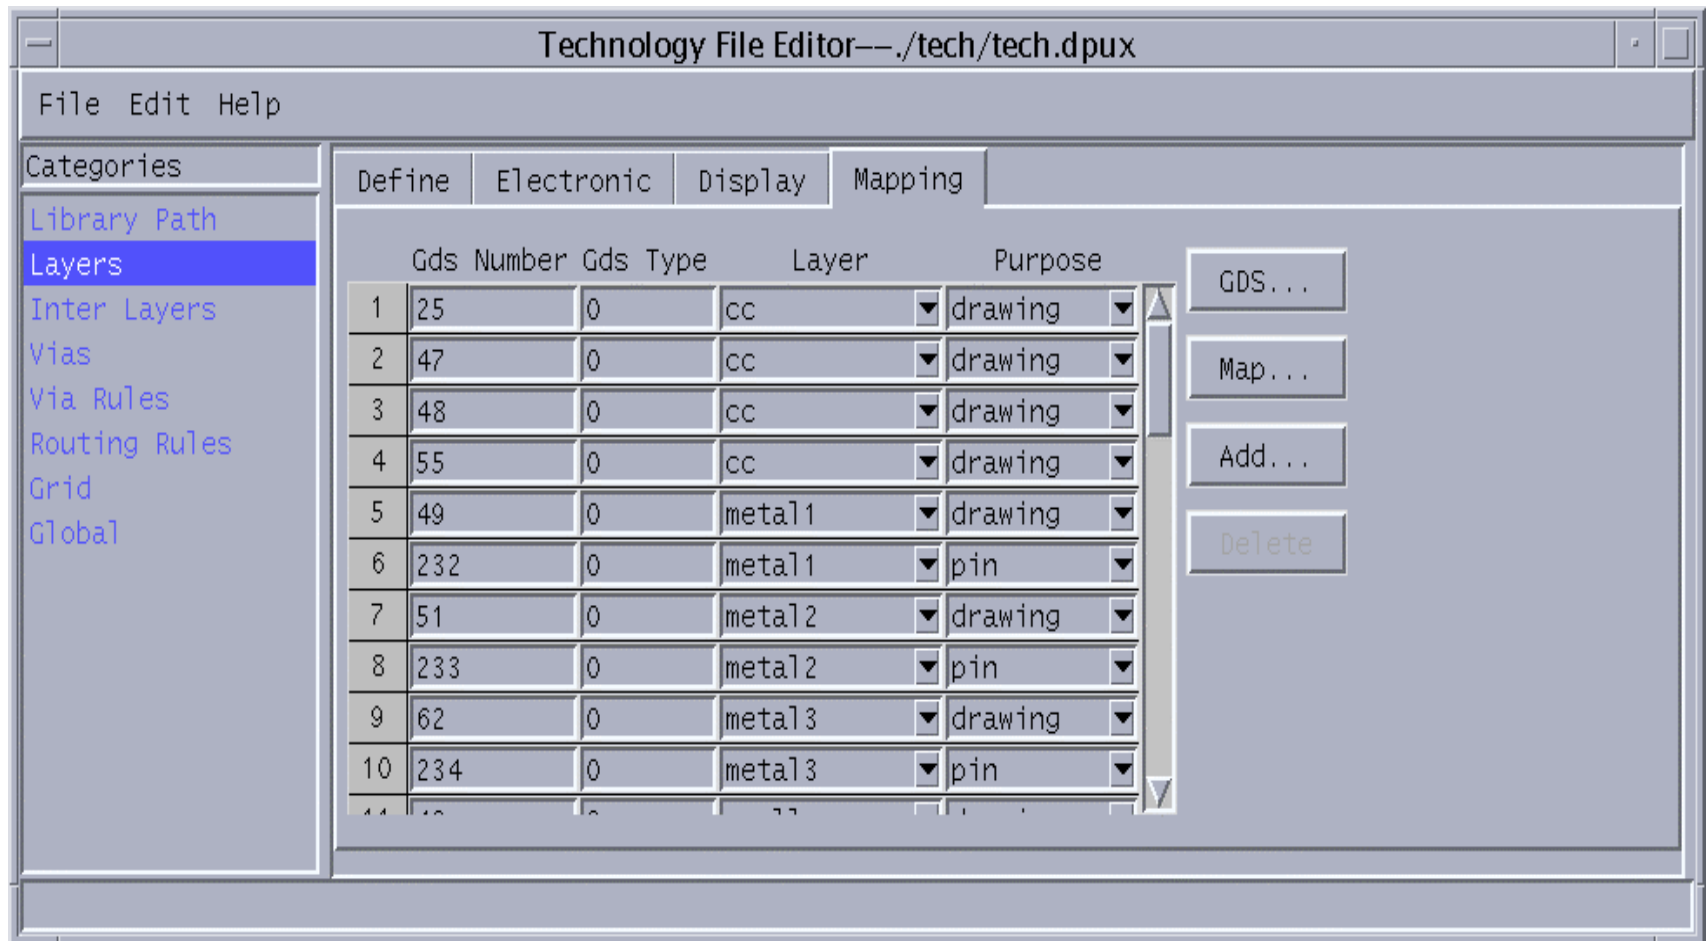

Figure 6
- Click on **Layers** on the left column, then click on **Mapping** on the top row. (refer Figure 6, next slide)